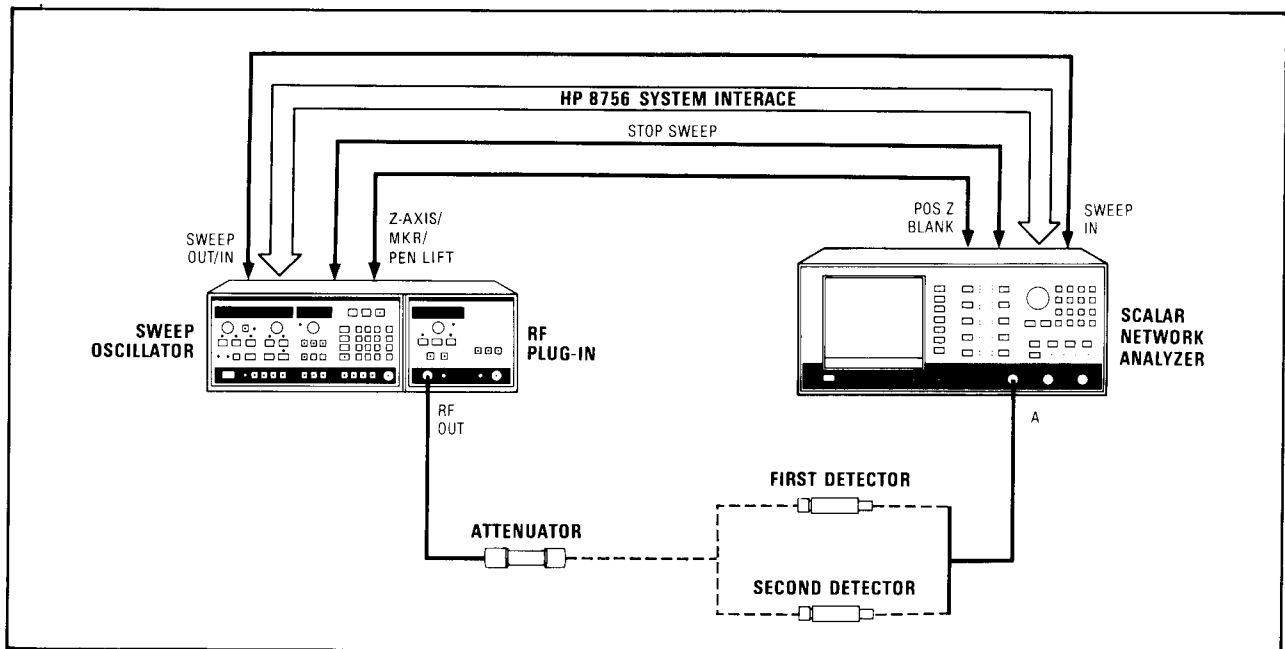

Figure 4-8. Tracking Test Setup
1. Connect equipment as shown in Figure 4-8. Press **[PRESET]** on the HP 8756A. This will preset both the HP 8756A and the HP 8350B (this will also turn the HP 8350B **[$\square$ MOD]** on and set the sweep rate to 200ms). Set the source power level to 0dB and allow 30 minutes warm-up.